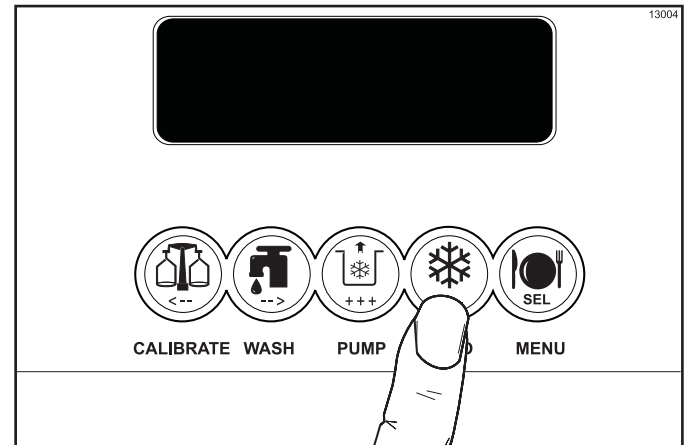

Figure 6-65
- Cancel automatic operation by pressing the AUTO key. (See Figure 6-65.)